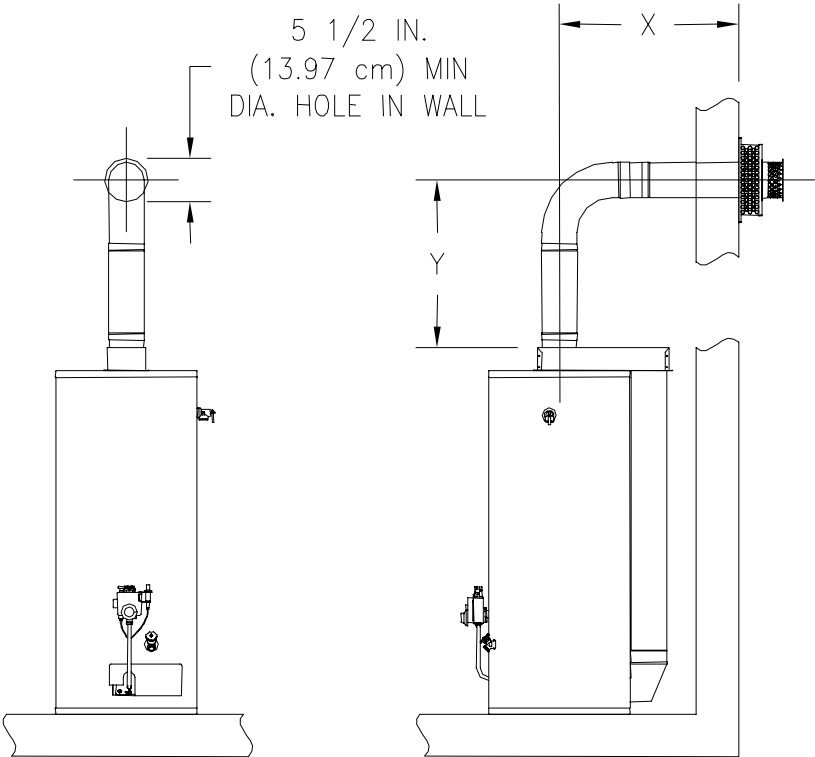

Figure 6
1. Measure the vertical height “Y” required in your installation. (See Figure 6). Reference the appropriate Table A to determine number of vent-air intake kits required in your installation.
2. Measure the horizontal length “X” required in your installation (See Figure 6). Reference Table A to determine number of vent-air intake kits required in your installation.
3. Cut a 5-1/2 inch (14 cm) diameter minimum clearance hole in the wall at the point where the vent-air intake tubes will pass through the outside wall and connect with the direct vent-air intake terminal (See Figure 6).